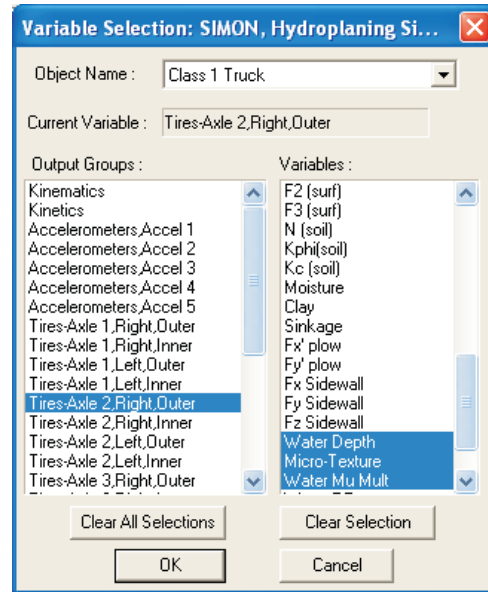

Figure 4 - Variable Selection dialog showing the selected hydroplaning results.
- Choose *Water Depth*, *Micro-Texture* and *Water Mu Mult* (see Figure 4), then press OK.